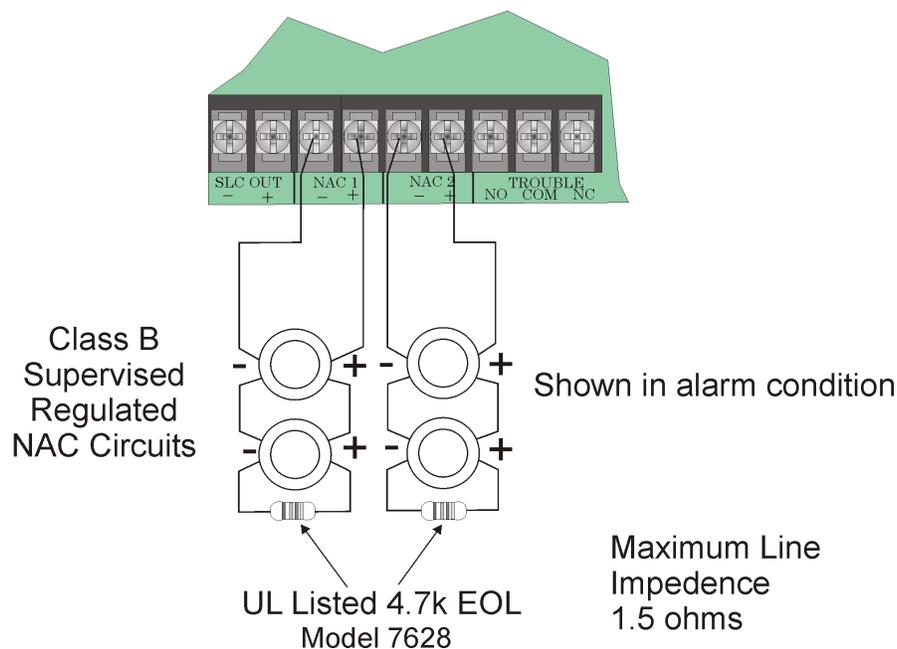

Figure 4-11 Class B Notification Appliance Circuit Wiring
1. Wire Class B Notification appliances as shown in Figure 4-11.